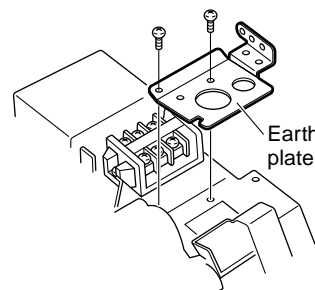

Fig. 26a
- f) Using a Phillips screwdriver, take out the screws on the earth plate. (Fig. 26a KS0951, 1251 models only) Remove the earth plate.